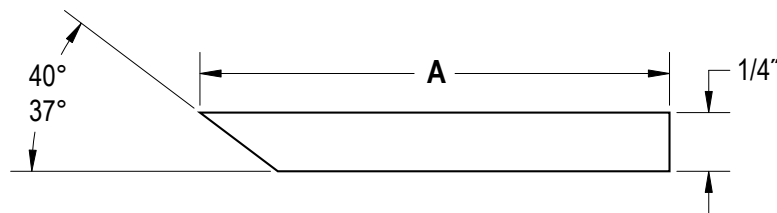

Figure 2
- d) Lay the knife down on the knife shelf. Insure the knife is installed with the **cutting angle edge facing down** as shown in Figure 2. Loosely install the four knife clamps with the eight knife mounting bolts. Tighten the mounting bolts just enough to hold the knife in position while still allowing it to be moved.